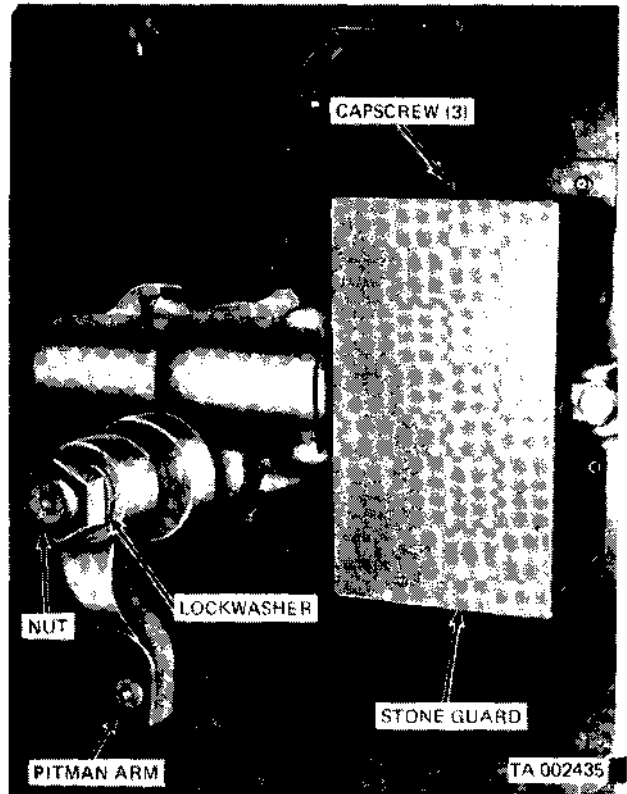

Figure 175.3. Removing and installing pitman arm.
(2) Remove pitman arm retaining nut and lockwasher (fig. 175.3).
(3) Using pitman arm puller, pull pitman arm from steering gear cross-shaft.
(4) Remove three capscrews securing stoneguard to frame and remove stoneguard.
(3) Assemble pitman arm by alining index marks. Secure arm with lockwasher and nut. Torque nut to 475-500 lb.-ft. (dry threads) (fig. 175.3).
(7) Install stone guard with three capscrews (fig. 175.3).
(8) Fill system with OE 10 or OES. Refer to LO 9-2320-211-12.
(9) Check vehicle for equal wheel cut from straight ahead position and check wheel stops for contact in relationship to gear travel.